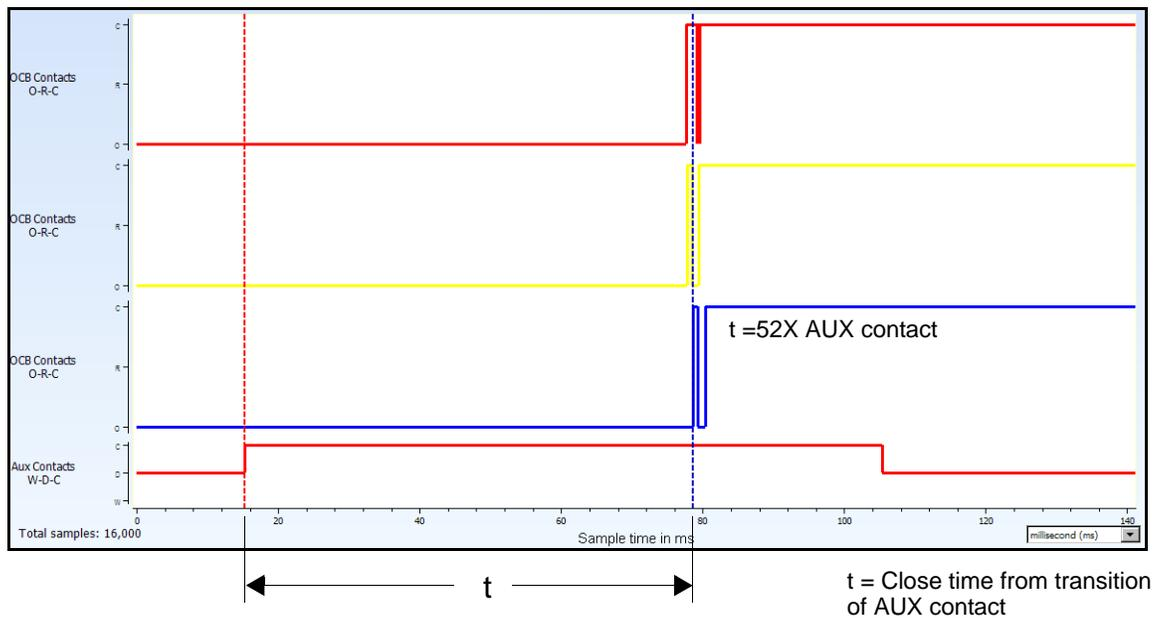

Figure 144 Closing Time Measured from Transition of AUX Contact
3. The calculation is made. See Figure 144.